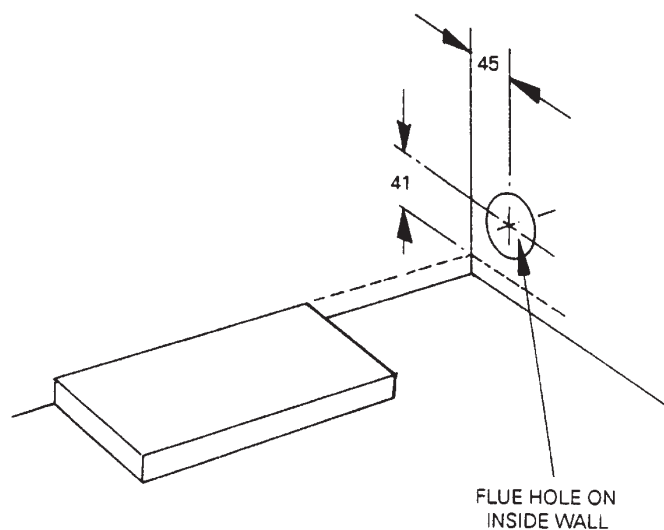

FIG. 9
1. Mark position of the top of the hearth on the inside face of the exterior wall and also the flue hole position (Fig. 9).